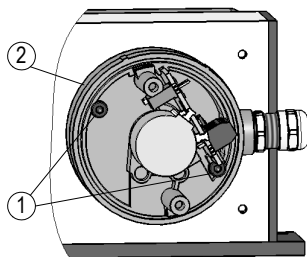

Fig. 13: Changing the position of the cable or connector outlet
- Slightly loosen the two Allen screws (1) (see fig. 13).
- Now you can rotate the drive's housing (2), ~220° counter-clockwise and ~90° clockwise.
- Tighten the Allen screws (1), put the hood on the device and close it.